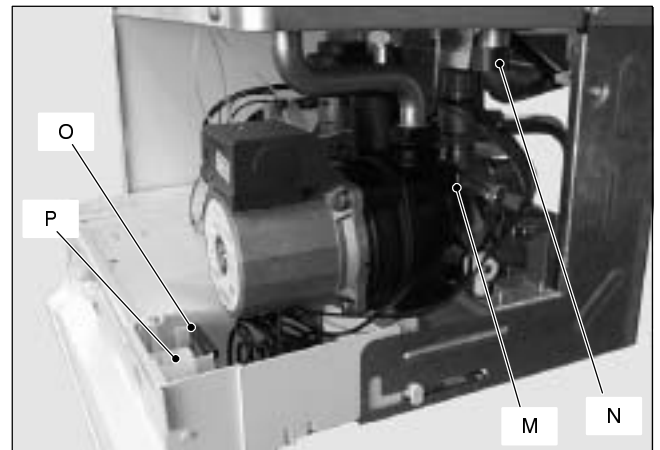

Fig. 55
- 2 Remove the fork M and the probe holder spring N (Fig. 55).